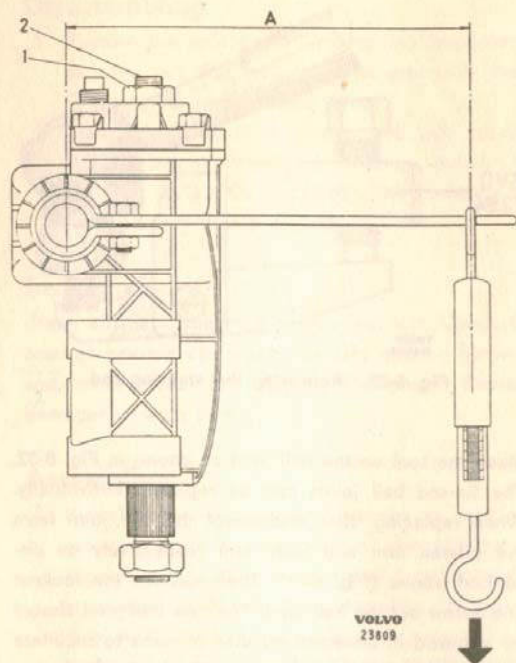

Fig. 6-29. Checking the bearing adjustment
8. Set the steering wheel in the central position. Screw in the adjusting screw so far that a noticeable resistance is felt when turning the steering wheel either side of the central position. Place a spring balance at a distance of 8.3" (210 mm) from the center line of the shaft. The spring balance can also be placed on a lever fixture fitted to the steering shaft, see Fig. 6-29. Screw back the adjusting screw so that the spring balance gives a reading of 14–25 oz. (0.4–0.7 kg) when the steering shaft is pulled over the central position. The turning movement should be done at right-angles to the steering shaft (Fig. 6-29) and the steering box should be clamped so that the steering shaft is vertical when measuring. When